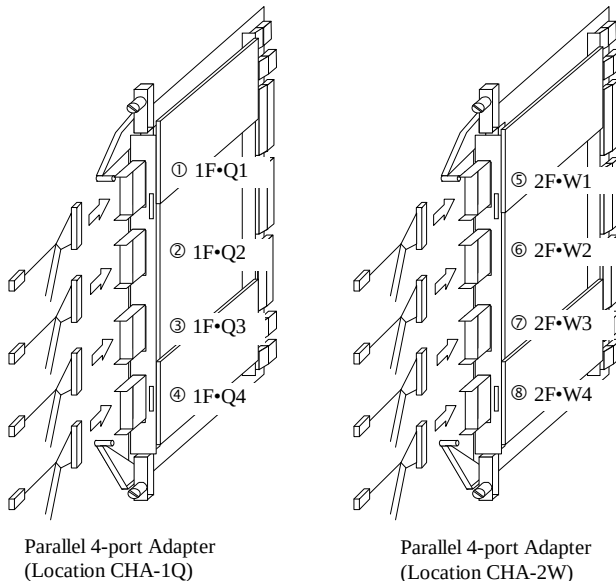

Fig. 3.6.2-7 Connection of CH Cables (Add.1)
- a. Connect the CH cables to the sub-edge connectors on PCB. Refer to Fig. 3.6.2-7 and Table 3.6.2-4.